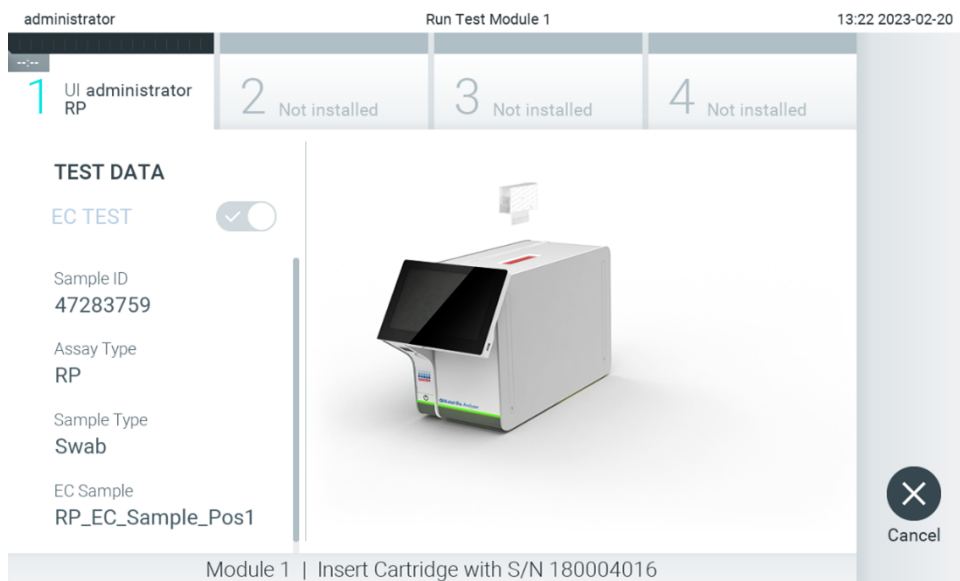

Figure 97. Inserting QIAstat-Dx assay cartridge into QIAstat-Dx Analyzer 2.0.
9. Make sure that both sample lids of the swab port and main port of the QIAstat-Dx assay cartridge are firmly closed. When the cartridge entrance port on the top of the QIAstat-Dx Analyzer 2.0 automatically opens, insert the QIAstat-Dx assay cartridge with the bar code facing to the left and the reaction chambers facing down (Figure 97).